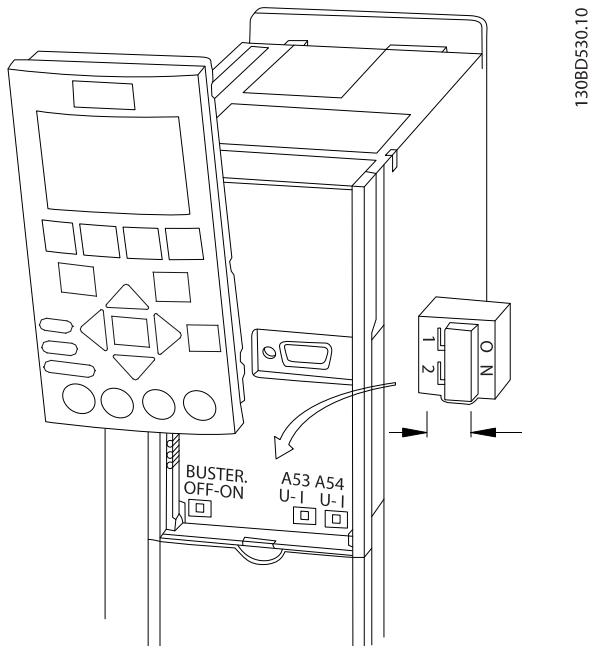

Figure 4.17 Location of Terminal 53 and 54 Switches
1. Remove the LCP (local control panel) (see Figure 4.17).
- Terminate each segment at both ends, using either the termination switch (bus term on/off, see *Figure 4.17*) on the adjustable frequency drives, or a biased termination resistor network.